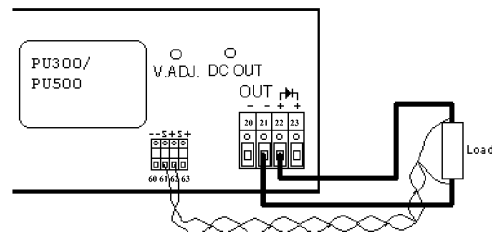

Figure 6. External sense.
- Connect a twisted-pair (0.25mm² -1.5mm²) between the sense terminals of the converter and the load, see *Figure 6*. The sense leads and the power cables shall be of approximately the same length and drawn as close to each other as possible. **Beware of correct polarity!**